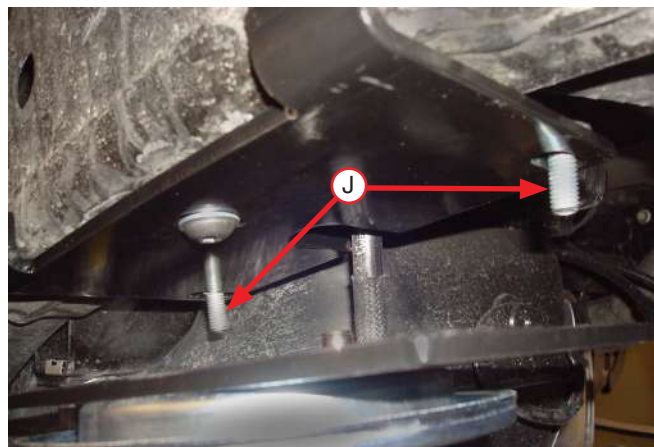

Fig. 13
3. Insert the 3/8" carriage bolts (J) into the top frame brackets from the top down (Fig. 13).